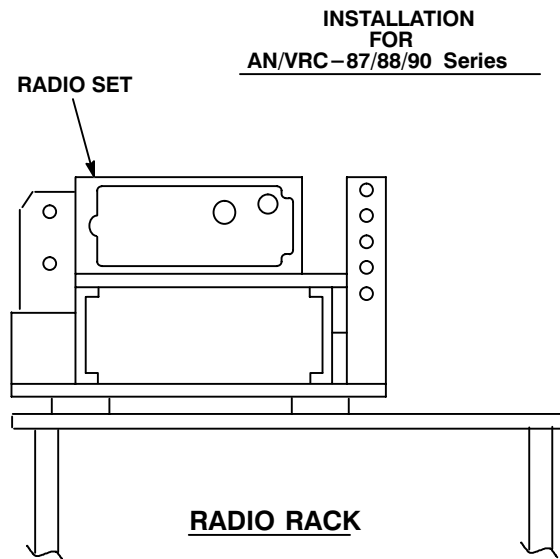

Figure 5-1 (3). MK and Radio Installation: Radio Equipment Locations
5.1 Installation of Antenna AS-3900/VRC (antenna). Refer to section 5.1.2 for installing an antenna in the M997 Ambulance. See figures 5-1 (1) and 5-1 (2) for location(s).